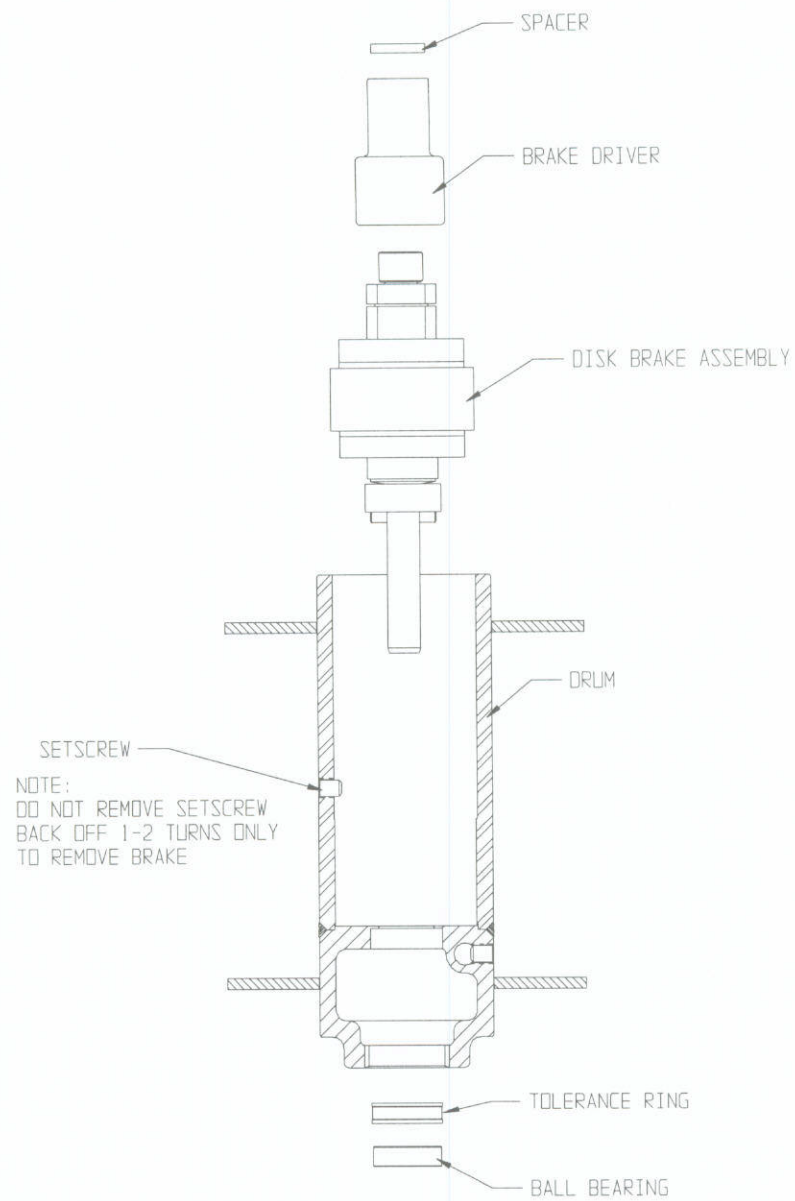

Figure 2.19
- iii. Remove spacer and brake driver (*Figure 2.19*).
- iv. Loosen, but do not remove, the socket head setscrew from the center of the drum just enough so brake assembly will slide out of the motor end of the drum (*Figure 2.19*). If assembly refuses to slide, it may be necessary to insert a hex key in the shaft and tap it until assembly is dislodged.
NOTE: Ball bearing supporting gear train end of brake assembly should be checked and replaced if necessary. (*Figure 2.19*).